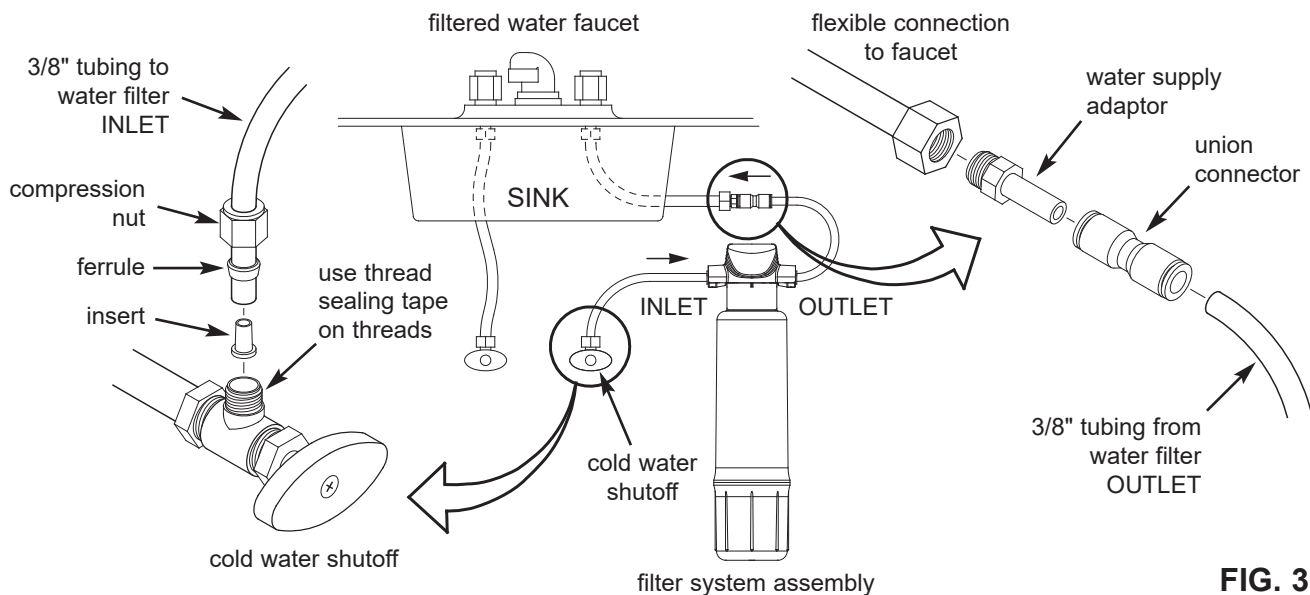

FIG. 3
Check and comply with local plumbing codes as you plan, then install the fittings to connect the kitchen & bath filter into the sink's cold water supply line. Fittings (9/16-24 thread) and 3/8" O.D. tubing are included to provide connections to and from the kitchen & bath filter's inlet and outlet. A typical connection using the included water supply fittings is shown in Figure 3.
3. Locate one piece of the supplied 3/8" tubing, plus the supplied compression nut, ferrule and tubing insert (See Fig. 3). Assemble the parts onto the tube, as shown in Figure 3, and thread the compression nut onto the cold water shutoff. Tighten to provide a leak-tight connection.
4. Locate the water supply adaptor (supplied) and install it into the nut on the supply line which you disconnected in Step 2. Refer to Figure 3.
5. Press the stem of the water supply adaptor into one end of the supplied union connector (See Figure 3). Be sure to push the stem all the way in.